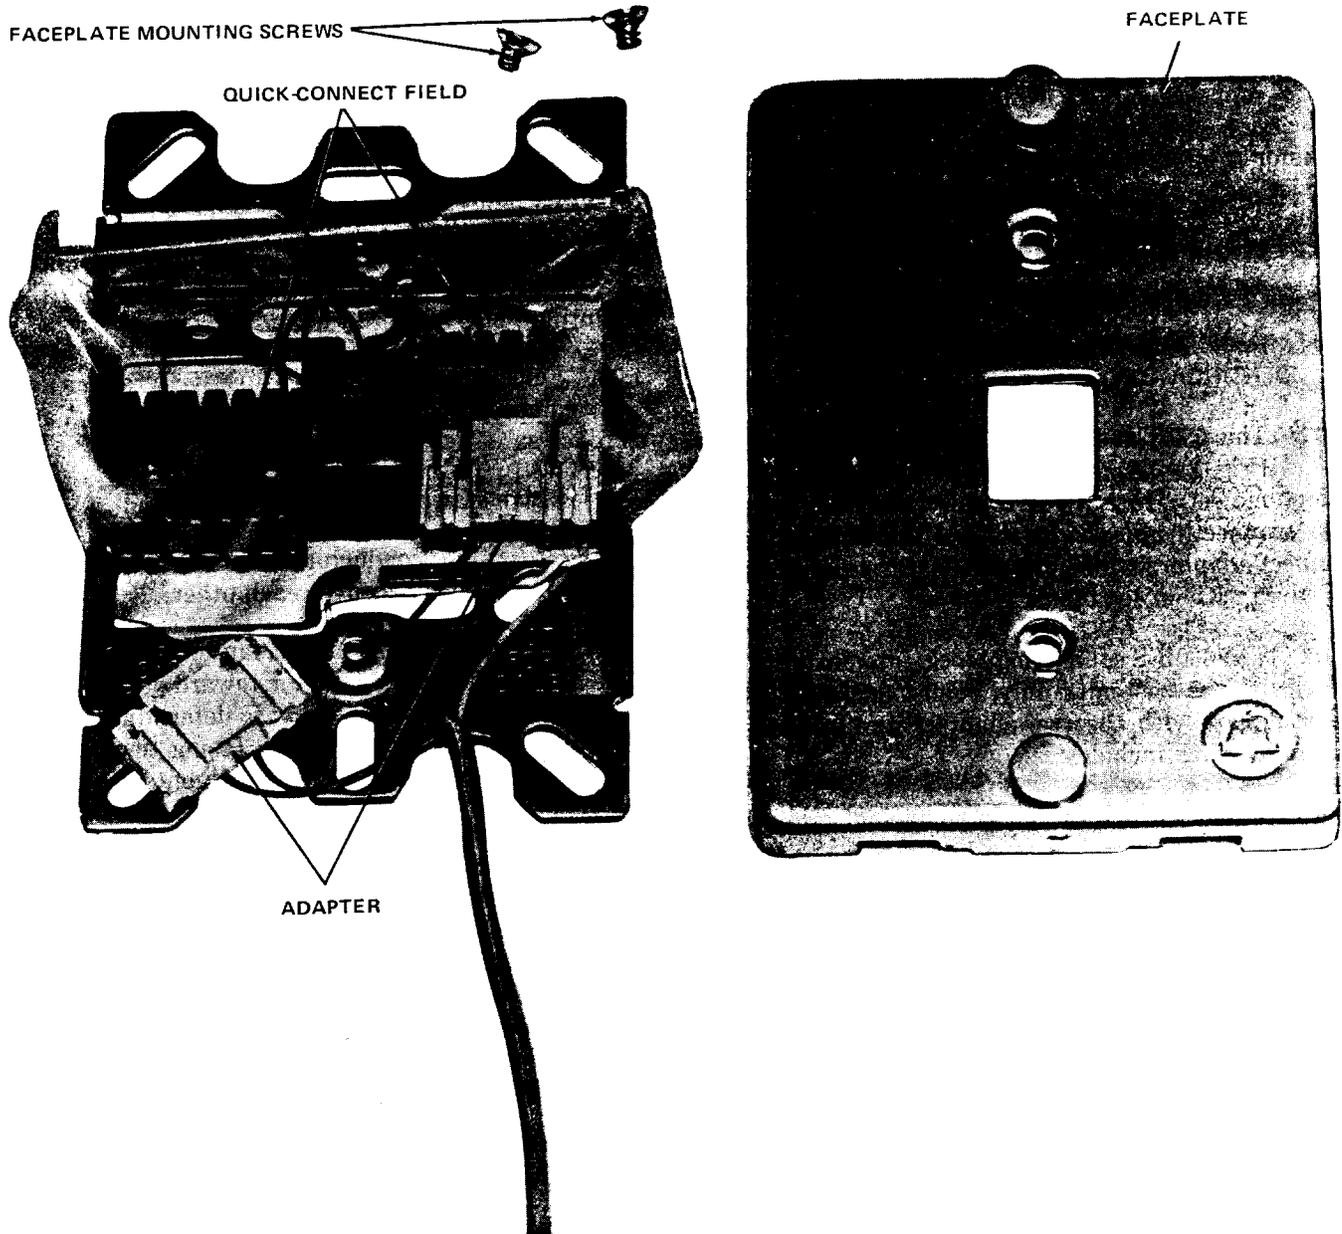

Fig. 1—630B Connecting Block
2.01 The 630B and the 630B-S connecting blocks (Fig. 1) are made for use with a modular wall telephone set. They are physically the same as the 630A connecting block with the addition of two quick-connect adapters which provide for easy installation of wires without lead insertion tools.